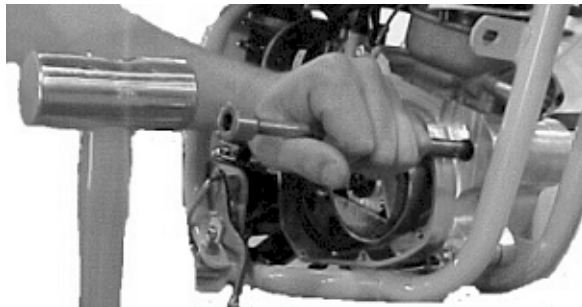

Figure 46
1. The motorcycle will only operate properly if the carburetor top is installed properly with the mounting screws, cable and choke knob oriented as shown in figure 46.